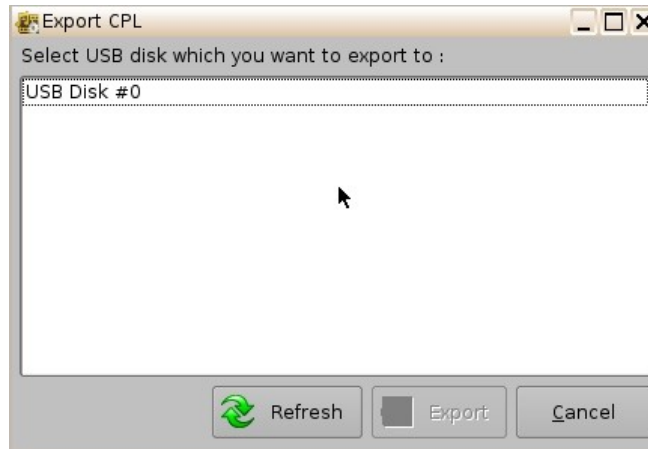

Figure 61: Export CPL Window
- The Export CPL window will appear (Figure 61):